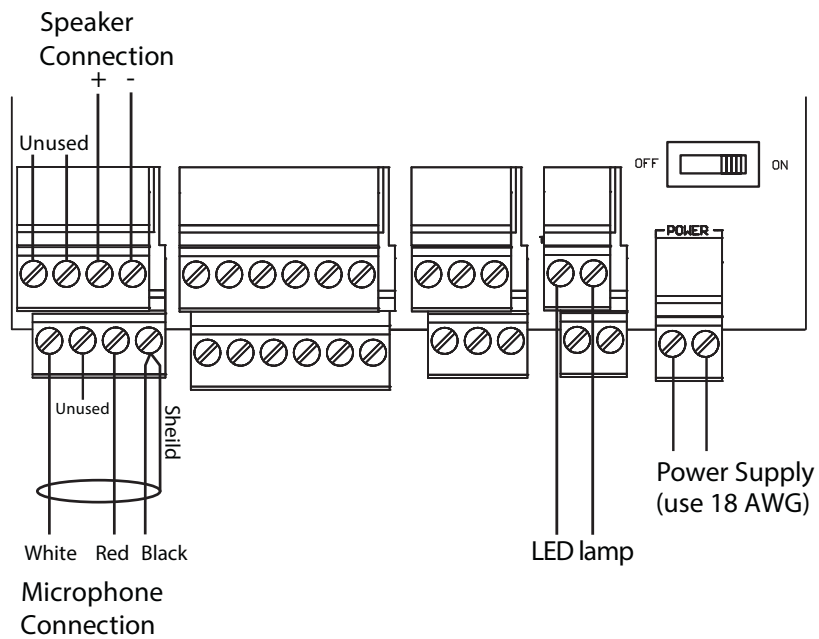

Figure 5 LED lamp connection on TX3-120C-A and TX3-120U-A
4. If you have TX3-120C-A or TX3-120U-A, connect the LED lamp as shown in Figure 5.